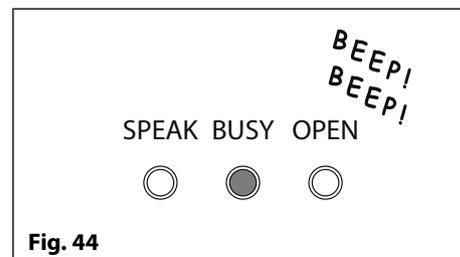

Fig. 44
4. Two short beeps will be heard from the GSM module and the busy LED will switch ON, as shown in **Fig.44**;